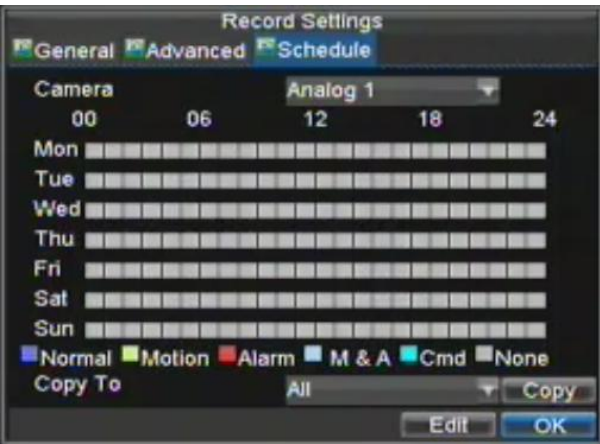

Figure 6. Schedule Settings
11. Select the **Schedule** tab, shown in Figure 6.